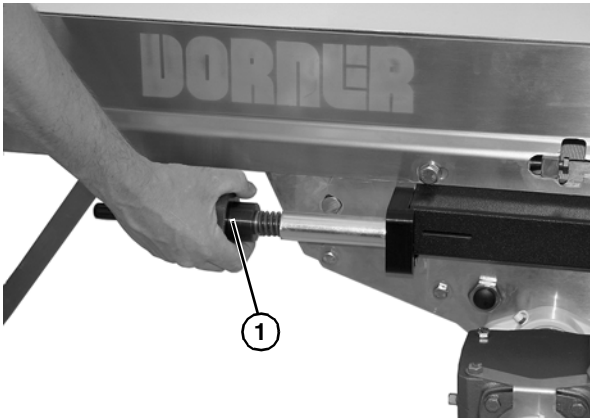

Figure 33
3. Rotate tensioning nut (**Figure 33, item 1**) on each side of center drive unit counterclockwise to remove all tension on belt.